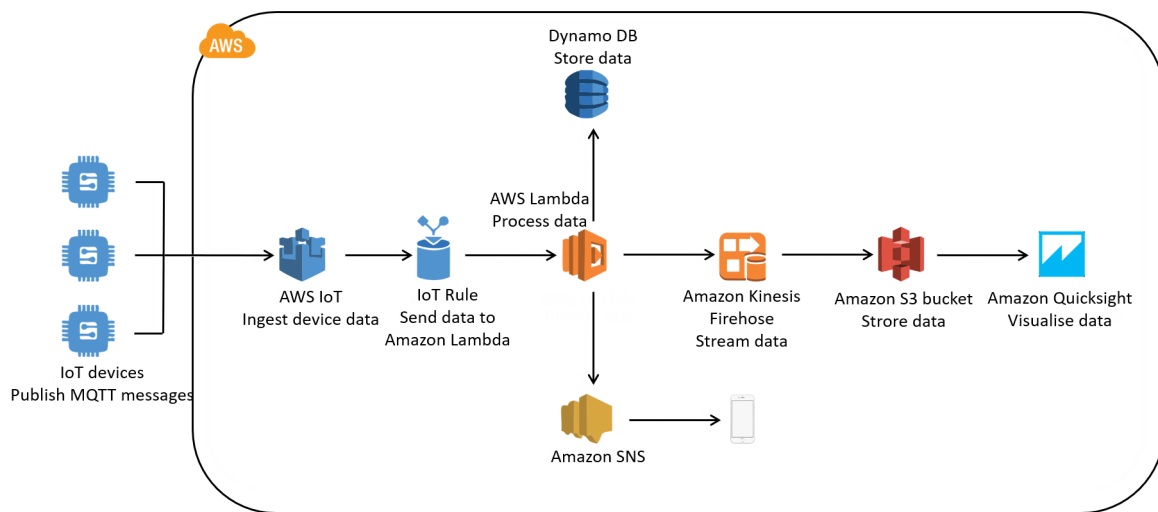

Figure 5: AWS example
- **Amazon AWS:** Figure 5 shows a sample application using Amazon AWS. In this example, the devices are provisioned to connect securely to the Amazon AWS IoT core. The incoming data is then processed using the AWS Lambda function. Using the thresholds stored in the Dynamo DB, the lambda function detects the thresholds and sends notifications to the user using the notification service (Amazon SNS). Further, the data is streamed to an S3 bucket using the Kinesis Firehose streaming service. The stored data can be used for visualization using Amazon Quicksight service.